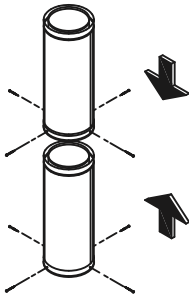

Figure 6
8. Assemble Chimney Sections: Chimney sections are connected by lowering the female end of a Chimney Section onto the male end of a previous section of chimney. Sheet metal screws are required to connect Chimney Section together. For each additional Chimney Section use (4) Sheet metal screws provided, to make a secure connection between the chimney sections (**Fig. 6**). Do not penetrate the inner liner of the chimney. Use a Wall Strap every eight (8) feet of chimney height.